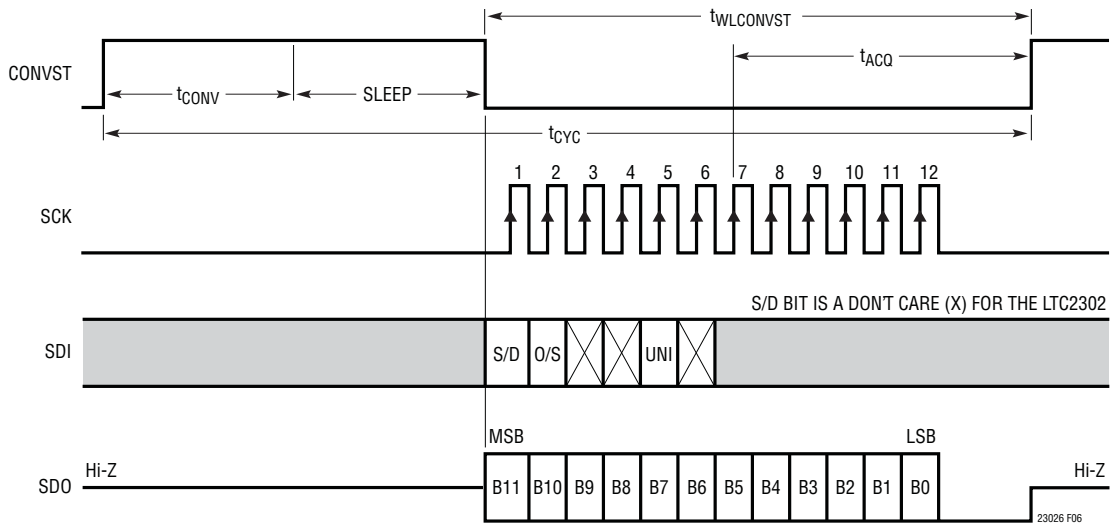

Figure 6. LTC2302/LTC2306 Timing with a Long CONVST Pulse
The software compatible LTC2302/LTC2306/LTC2308 family features a 6-bit  $D_{IN}$  word to program various modes of operation. Don't care bits (X) are ignored. The SDI data bits are loaded on the rising edge of SCK, with the S/D bit loaded on the first rising edge (see Figure 6 in the Timing
The start of a conversion is triggered by the rising edge of CONVST. Once initiated, a new conversion cannot be restarted until the current conversion is complete. Figures 6 and 7 show the timing diagrams for two different examples of CONVST pulses. Example 1 (Figure 6) shows CONVST staying HIGH after the conversion ends. If CONVST is high after the  $t_{CONV}$  period, the LTC2302/LTC2306 enter sleep mode (see Sleep Mode for more details).